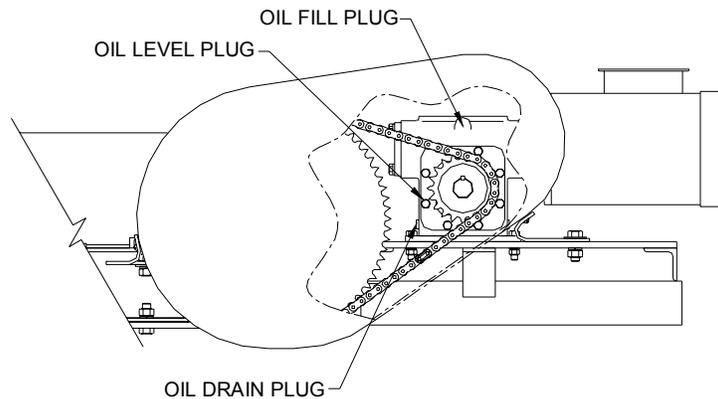

FIGURE 5
1. **FACTORY FILLING.** Winsmith speed reducers are filled to the proper level prior to shipment with the appropriate grade of oil for operation in an industrial environment. The oil level should be checked prior to operation, using the oil level plug provided for that purpose. Refer to Figure 5..